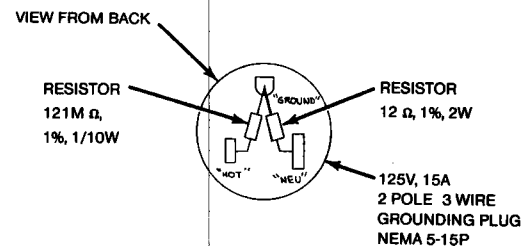

Figure 8: Leakage Test Plug Assembly
- a. Leakage test plug assembly (see Figure 8).